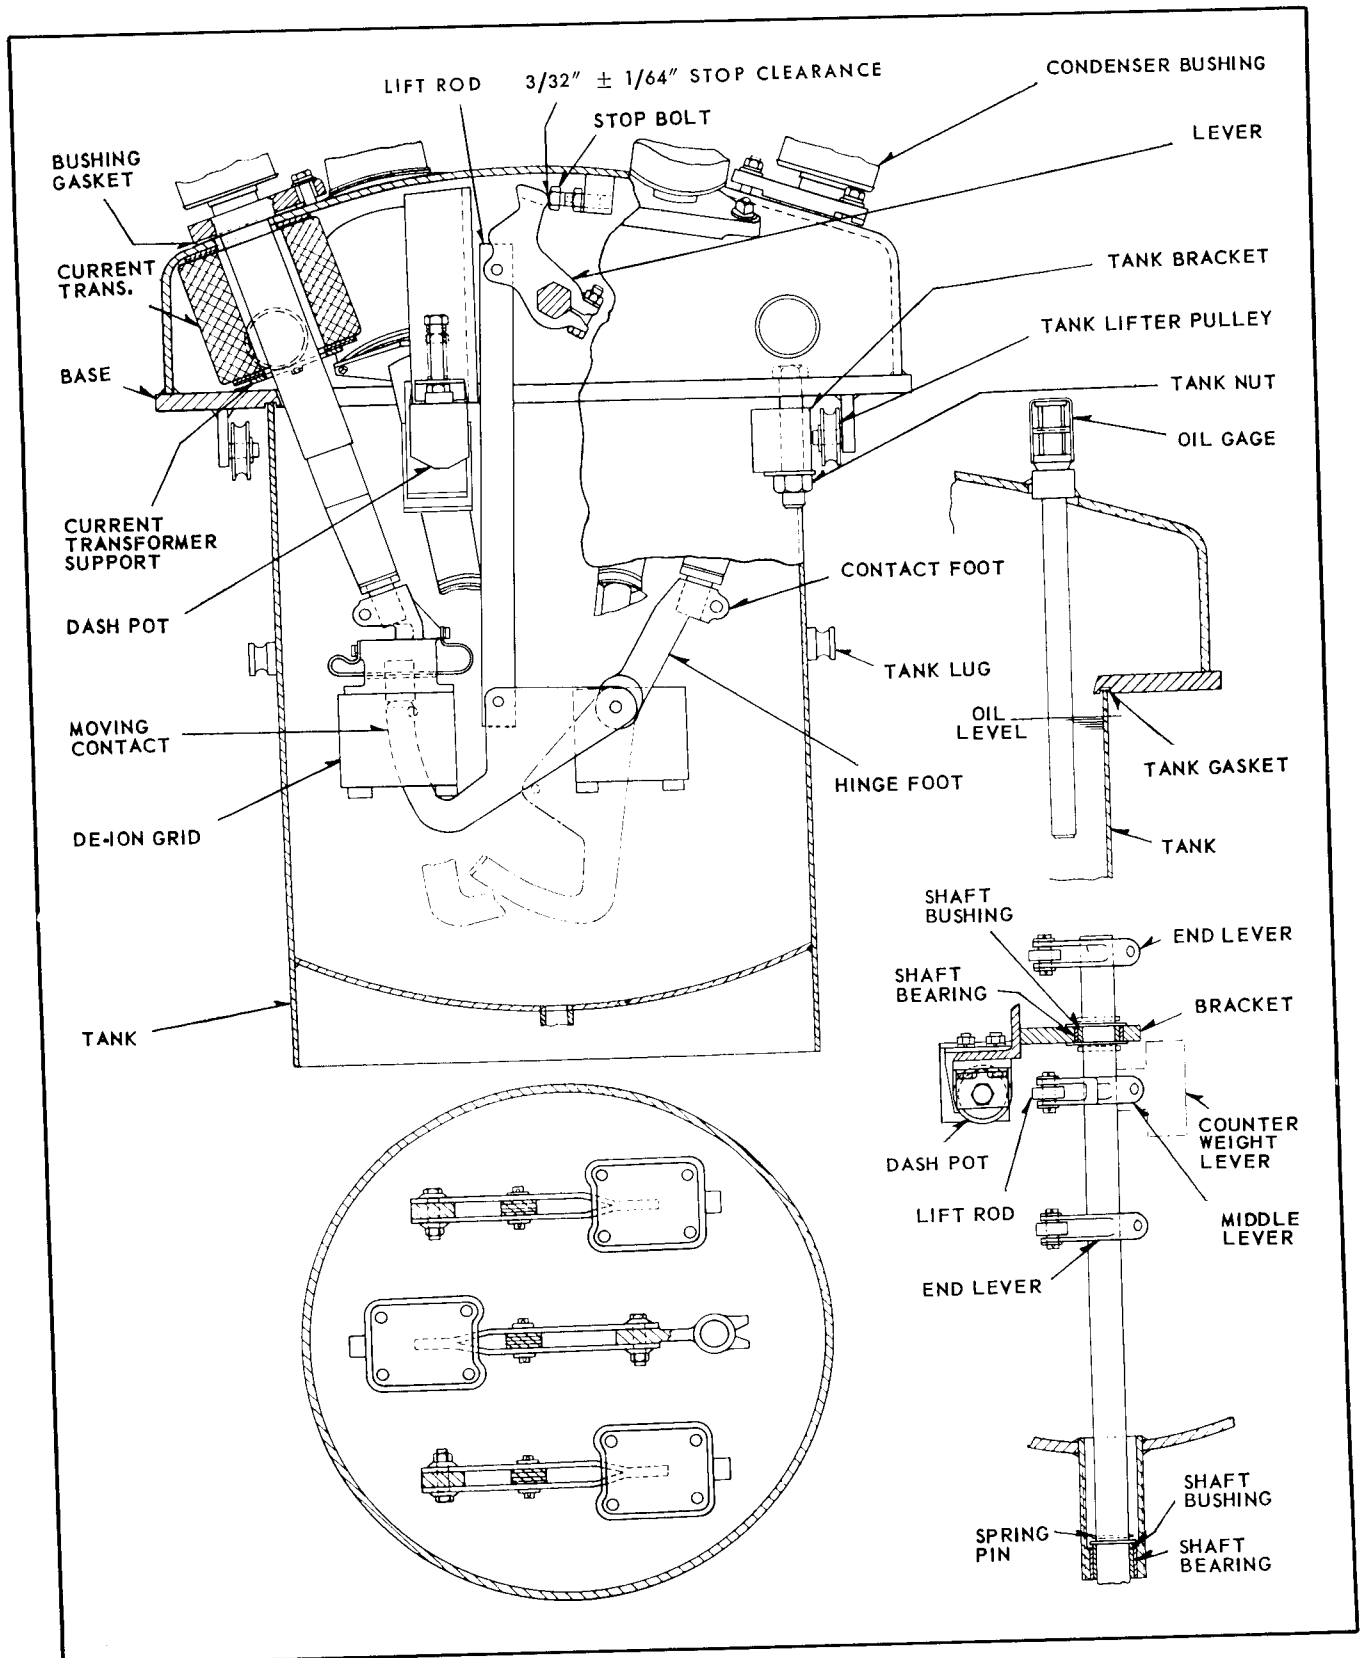

Fig. 3 Pole Unit Assembly - Standard Breaker
11. Check for 3/32" moving contact stop clearance under dome between middle crank lever and stop bolt (Fig. 3). With the solenoid mechanism closed and latched, the correct toggle position is obtained when two sides of the hexagonal operating shaft are